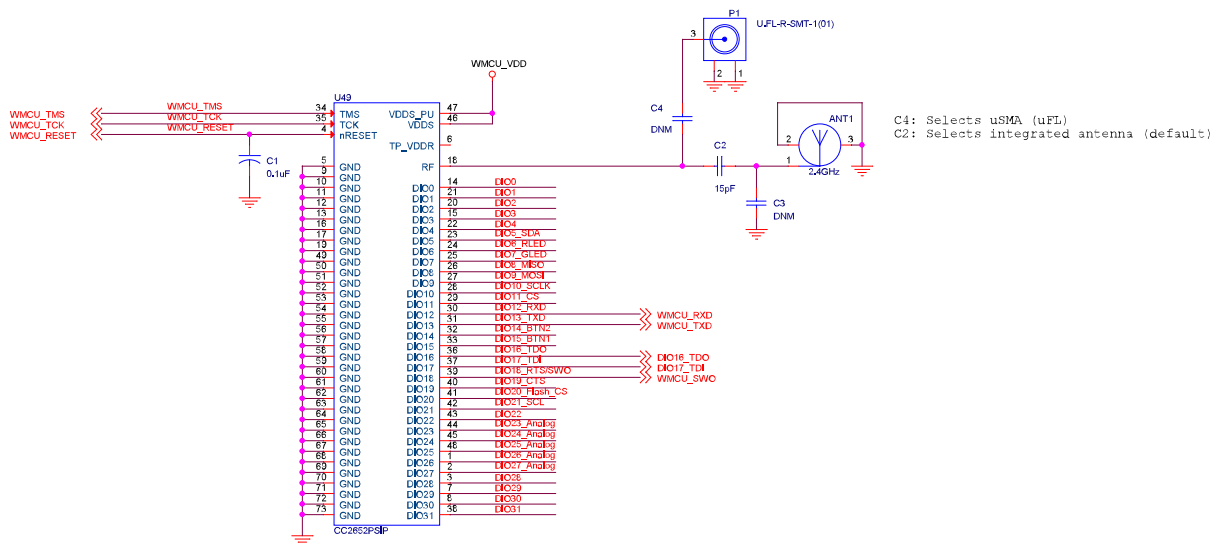

Figure 10-1. CC2652PSIP Typical Application Schematic
Figure 10-1 shows the typical application schematic using the CC2652PSIP module. For the full reference schematic, download the LP-CC2652PSIP Design Files.
Table 10-1 provides the bill of materials for a typical application using the CC2652PSIP module in Figure 10-1.
In order to meet the module power-on-reset requirements, an external 0.1  $\mu$ F capacitor is required on the nRESET pin during power ON. In addition, VDDS (Pin 46) and VDDS\_PU (Pin 47) should be connected together. If the reset signal is not based upon a power-on-reset and is derived from an external MCU, then the external capacitor will not be needed and VDDS\_PU (Pin 47) should be No Connect (NC). Please refer to Figure 10-1 for the recommended circuit implementation and Table 10-1 for the recommended 0.1  $\mu$ F capacitor.